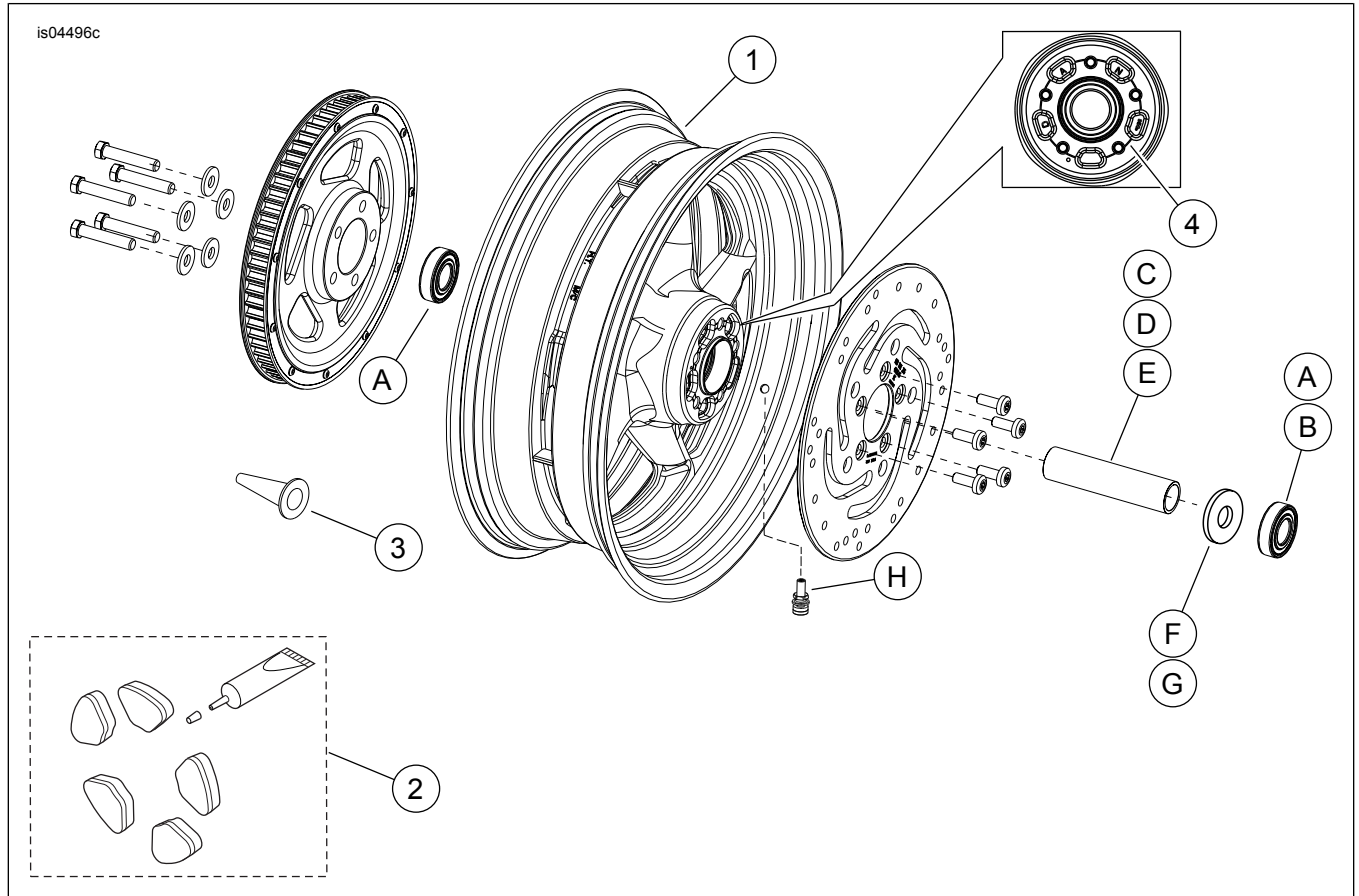

Figure 1. Service Parts: Rear Reaper Wheel
See Figure 1. and Refer to Table 2.
2. See Figure 1. Install valve stem assembly (H) on wheel following the instructions in the appropriate service manual.